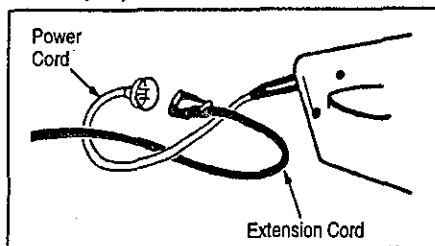

Figure 13
EXTENSION CORD ATTACHMENT (Fig. 13 & 14)
- Secure extension cord to the Power Cord as shown in Figure 13 to prevent disconnection.
- Insert the cord socket into the recessed plug on the unit. Figure 13.